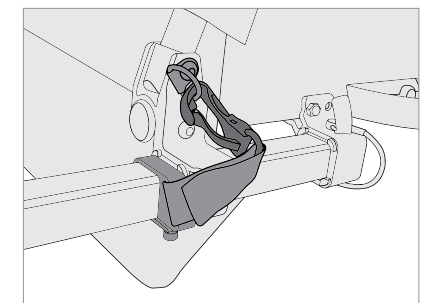

Figure 13
4. Clip the receiver safety strap to the D-ring on the trailer frame (Figure 13).